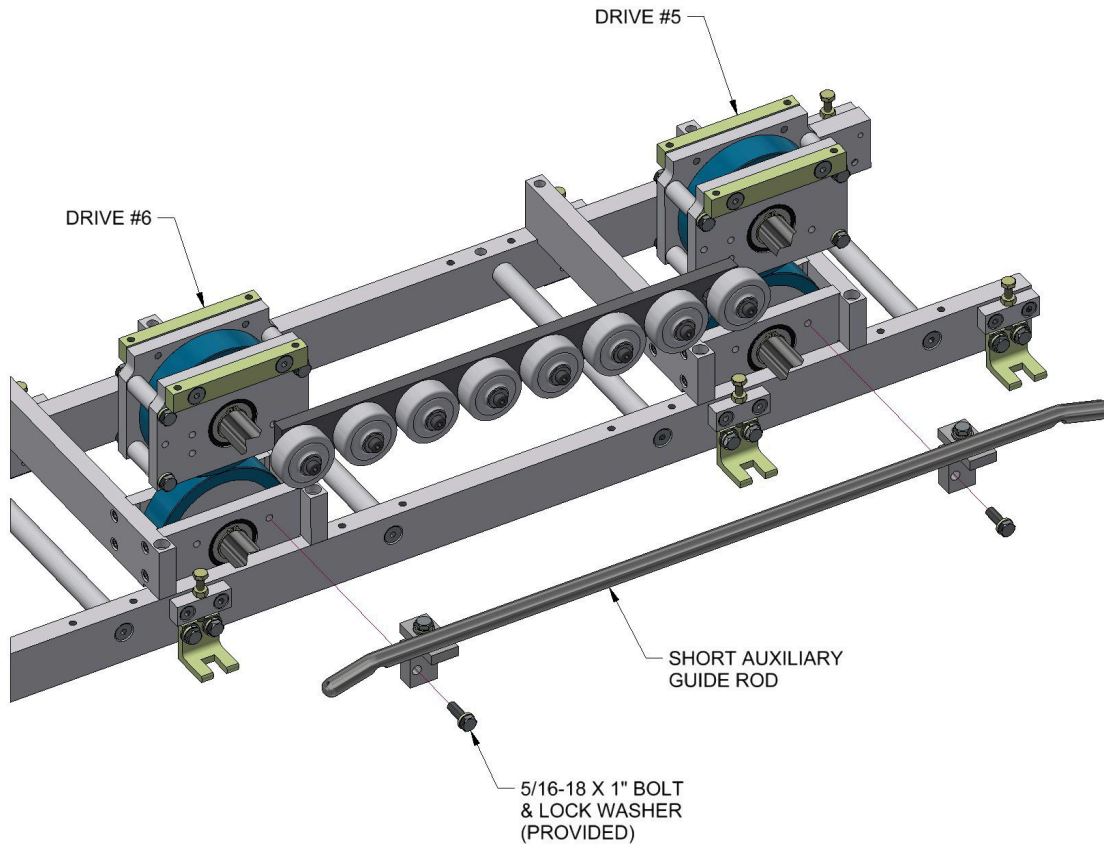

Figure 28: Short Auxiliary Guide Rod Installation
9. Install the Short Auxiliary Guide Rod as shown in Figure 28 below.